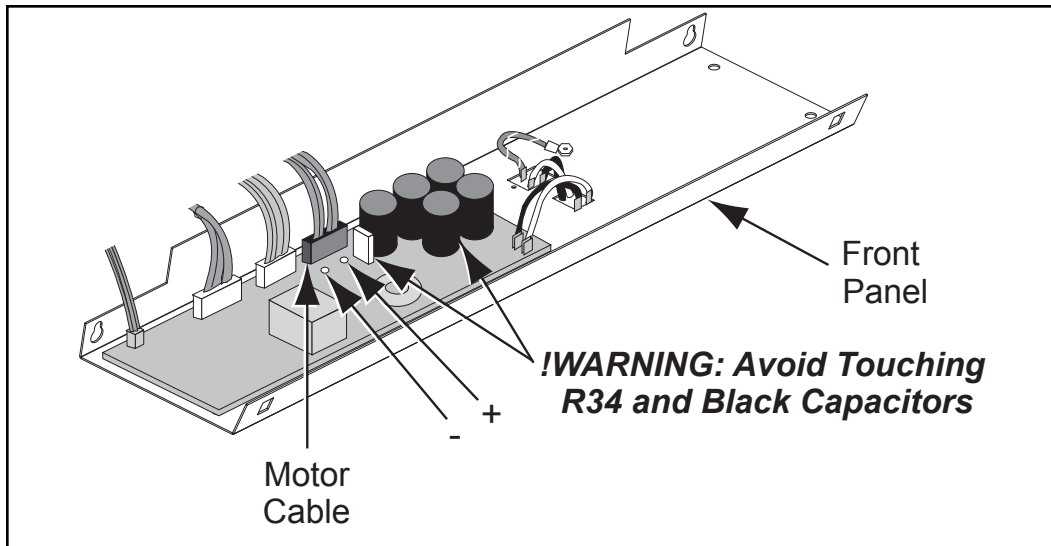

Figure 1
**A.** While the treadmill is still fully elevated and running turn the main power switch to the off (O) position.
**C.** Avoid touching R34 and the black capacitors. Disconnect the motor cable. See Figure 1.
- A. Avoid touching R34 and the black capacitors. Connect the motor cable. See Figure 1.
- B. Turn the main power switch to the on (I) position.
- C.** Touch the voltage meter leads to the lower board + and - solder points. See Figure 1. Touch the red lead to positive, and the black lead to negative. On a 115V unit the motor voltage at 10 mph (16 kph) with no load should not go below 83 VDC. On a 220V unit the motor voltage at